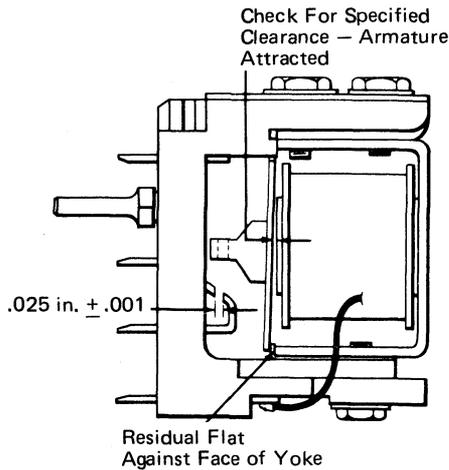

Figure 2-8. Armature Air Gap
1. Check to be sure the residual is flat against the face of the yoke (Figure 2-8). The residual must be kept flush at all times and should be checked whenever any adjustments are necessary on a relay.
2. Check for a clearance between the armature and the core with the armature attracted. Four- and six-position relays should have .004-inch clearance, and twelve-position relays should have .003-inch clearance (Figure 2-8). Form the armature at the center to obtain this clearance.
3. The contact air gap is machined to .025-inch \pm .001-inch (Figure 2-8). Any attempt to change this gap results in an out-of-parallel condition, and may prevent proper contact with the wires. Clean the contact air gap as described in "Preventive Maintenance."